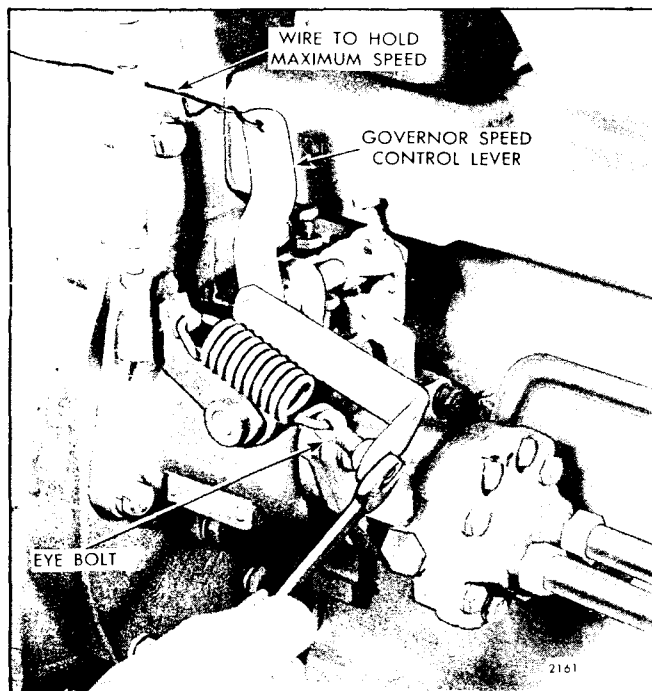

Fig. 5 - Adjusting Engine Droop
2. Advance the governor rocker shaft lever to the maximum fuel position and retain it in this position by advancing the governor speed control lever to its maximum speed position (Fig. 5) or by turning the idle speed adjusting screw down until the rocker shaft lever is held at the end of its travel.
1. If the speed droop is excessive, increase the tension of the speed adjusting spring (Fig. 5). If the speed droop is insufficient, decrease the tension of the speed adjusting spring.